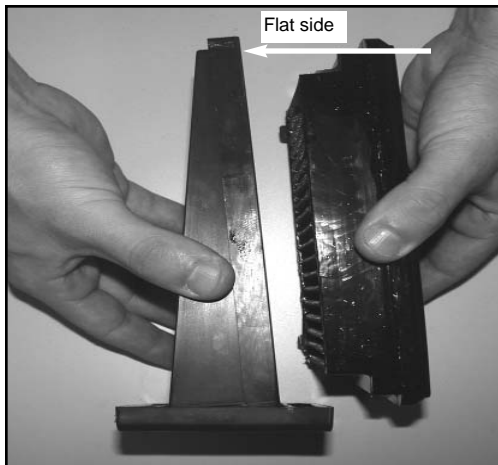

Fig. 1
4. Install the K&N Filtercharger® into the air filter holder. (Fig. 1)